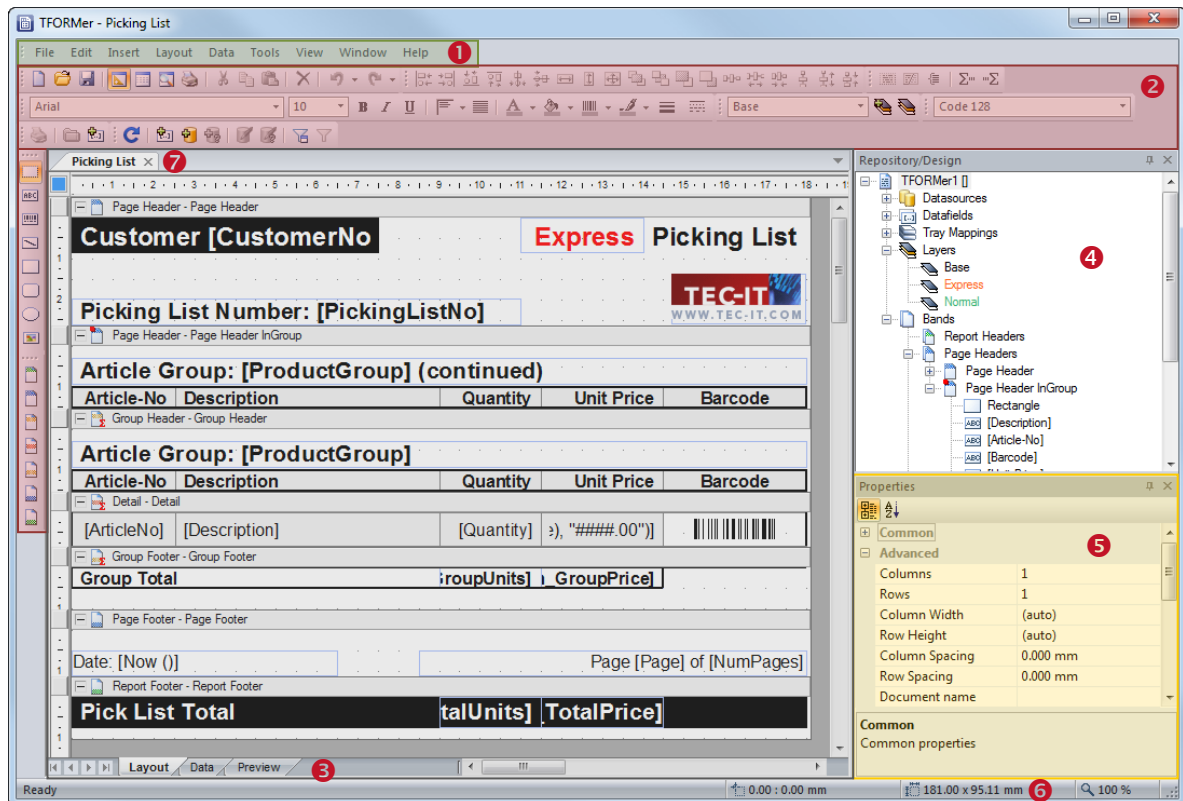

Figure 2: User Interface
Status Bar	Show or hide the status bar (see Figure 2, ⑥).
Properties	Show or hide the properties window (see Figure 2, ⑤).
Design Tree	Show or hide the design tree window (see Figure 2, ④).
Toolbar	Show or hide single toolbars (see Figure 2, ②).